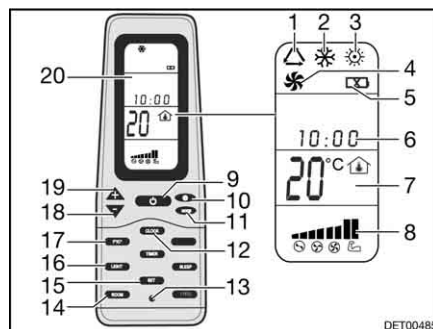

Fig. 208 Remote control
- Press the ON/OFF button (Fig. 208,9).
- Press the "Mode" button (Fig. 208,11) as often as required until the required mode (Fig. 208,1, 2, 3 or 4) is indicated on the display (Fig. 208,20).
- Use the "+" (Fig. 208,19) and "-" (Fig. 208,18) buttons to set the desired temperature.
- Use the fan speed button (Fig. 208,10) to select the desired fan level.